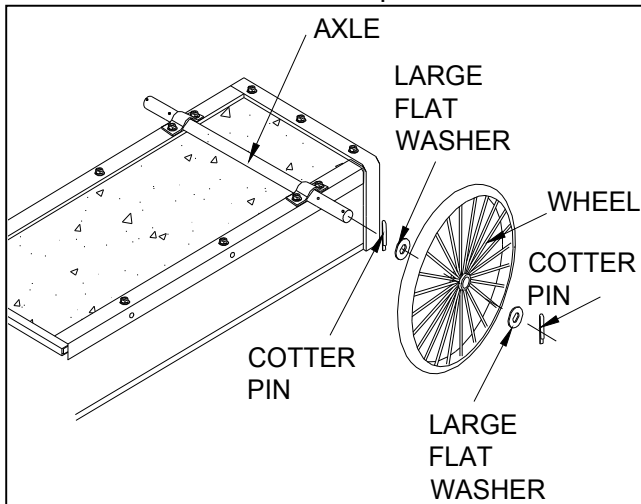

**FIGURE 11**
17. Insert a M6X25 screw through the hole at the rear of each side panel and the hole at the rear of each side angle. Secure with  $\Phi 6$  flat washers and M6 hex nuts, **making only finger tight at this time.** See figure 11.
18. Place the tube caps on the ends of the "W" shaped leg tube. See figure 11.
19. With the cart still upside down, assemble the leg tube to the bottom of the cart. Line up the two holes in the center of the leg tube with the holes in the bottom of the cart. Secure the leg tube to the bottom of the cart with two M6X50 screws,  $\Phi 6$  flat washers and M6 hex nuts. **Make only finger tight at this time.** See figure 11.
20. Attach the leg tube to the side panels with four M6 x50 screw,  $\Phi 6$  flat washers and M6 hex nuts. **Make only finger tight at this time.** See figure 11.
21. Fasten the support straps to the leg tube with two M6X40 screws,  $\Phi 6$  flat washers and M6 hex nuts. See figure 11.
22. At this time tighten securely all screws and nuts assembled in figure 11.